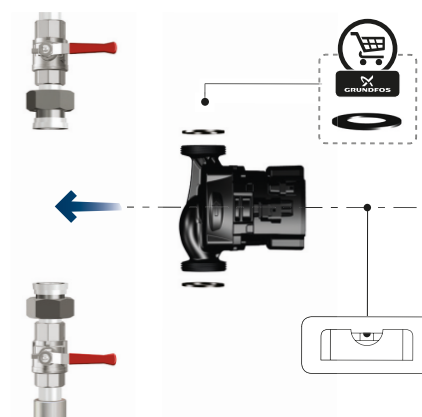

Fig. 2 Pump installation
2. Fit the two gaskets supplied with the pump when you mount the pump in the pipe. Install the pump with a horizontal motor shaft within $\pm 5^\circ$. See fig. 2. See also section 3.3 Control box positions.